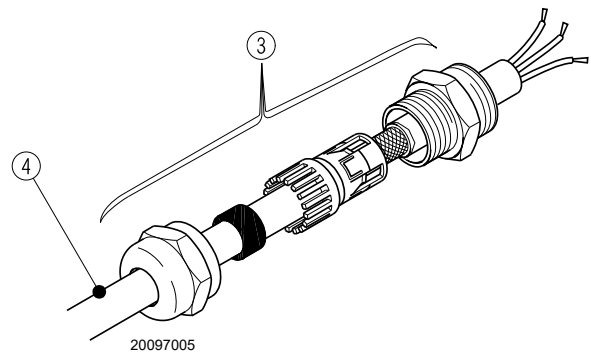

Fig. 24
- Shield the cable 4) running from the VSD (inverter), as shown in Fig. 24 and using the coupling 3);